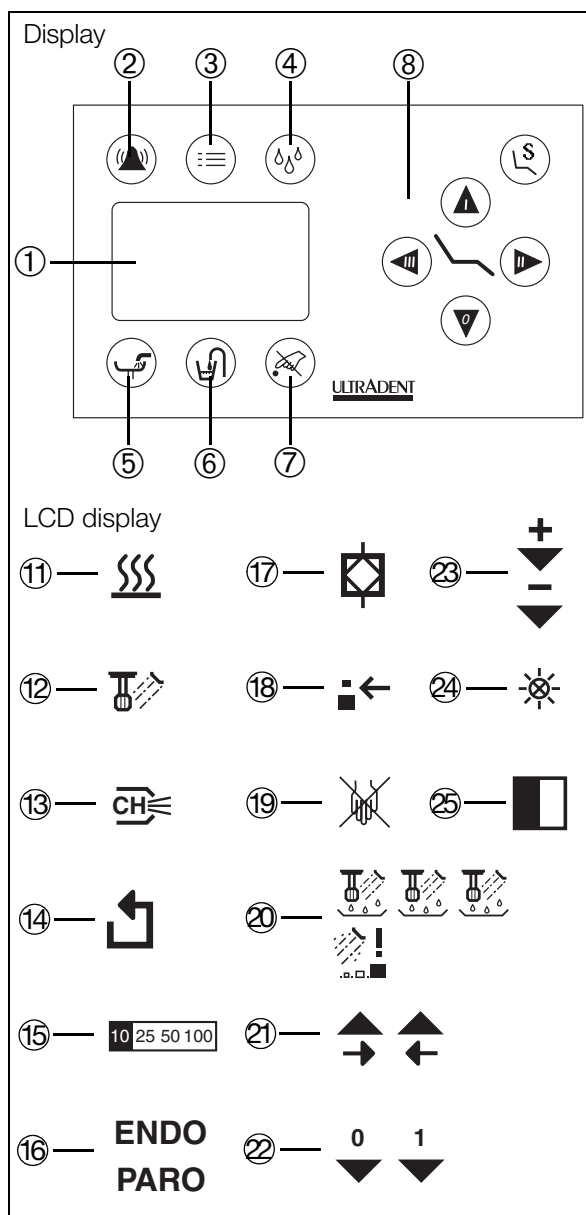

Fig. 35
You can activate or deactivate the spray cooling function using the foot control. When the spray cooling function is activated, the spray pre-selection display ⑫ (Fig. 35) on the control panel lights up.
The unit is fitted with a chip blower as standard. When it is switched on, the display lights up ⑬ (Fig. 35).